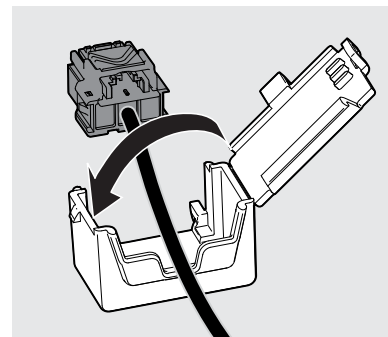

Figure 6
7. Place the ice maker harness into the cover. See Figure 6.